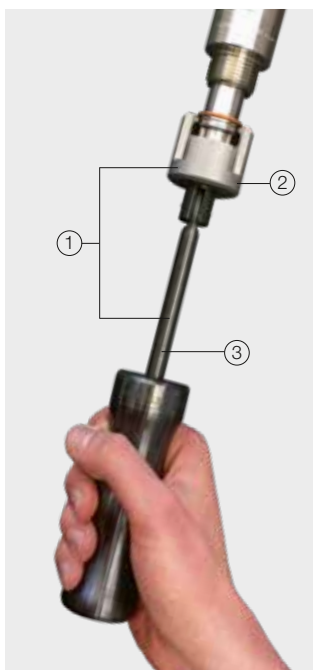

Fig. 1: Disassembly set
2. Nozzle jets, half of them turned outwards in opposite directions. This directs the spray water to both sides (see Fig. 1).
So that the correct alignment of the nozzle mouthpiece (15° offset angle of all jets in one direction to the header's longitudinal axis – see Fig. 1 nozzle at right side) is guaranteed, the welding nipple on the spray header must be positioned so that its flat inner surfaces are parallel to the header's longitudinal axis. This is best achieved with the alignment aid supplied as an accessory (Fig. 2, Order